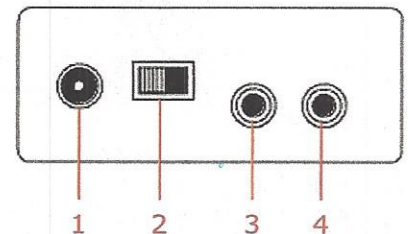

Figure 4—Left End
Figure 4 shows a schematic of the left end of the box, which contains the power supply socket (1), the mode switch (2) and two 3.5 mm stereo sockets for the signal input from the seismometer. The signal can be input as received (3) or sent through an inverting input (4). The inputs are identical except they show opposite polarity signals on the software screen.